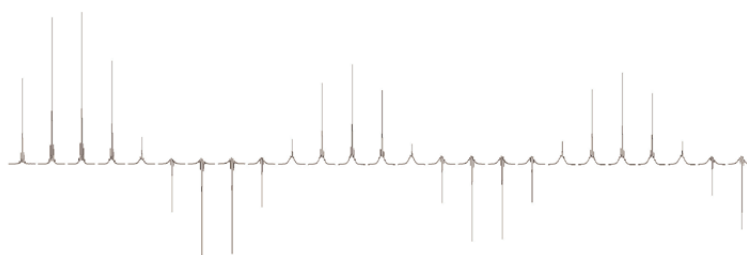

Figure 87. CPMAS pwX90 ^1H Calibration Array
- The data will look similar to Figure 87.